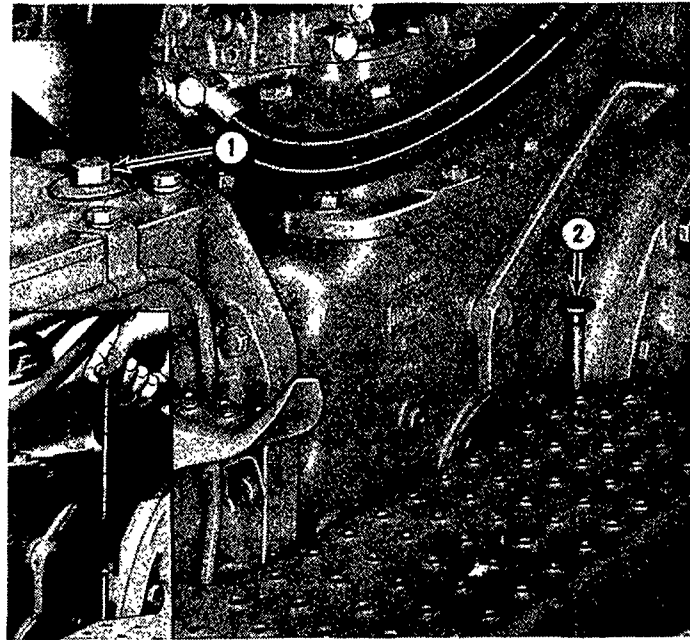

Figure 4
1. With the tractor on a level surface and the engine shut off, remove the dipstick, Figure 4.